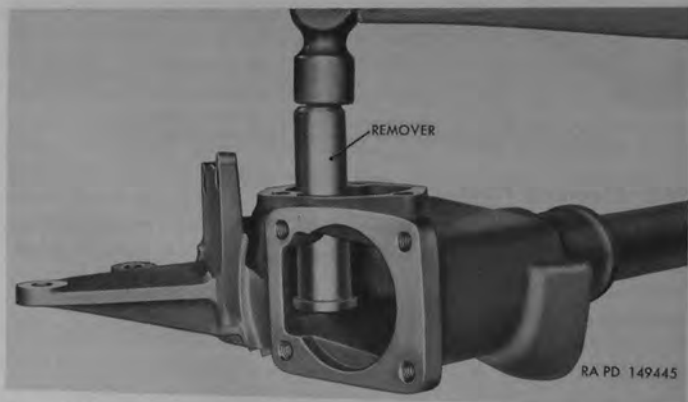

Figure 192. Remove Pitman arm shaft bearings from steering gear housing with remover 41-R-2370.
(1) Inspection.
- (a)* Examine steering gear housing (VV) for cracks, and stripped threads in cover mounting surfaces. If column jacket (F) is damaged, replace both column jacket and steering gear housing (VV).
- (b)* Check clearance (par. 353) between Pitman arm shaft (JJ) and Pitman shaft bushing type bearing (Q) (in steering gear housing). If bushing is worn or scored, replace as described in (2) below.
- (c)* Check condition of outer roller bearing race (R) which is pressed into steering gear housing. If race is cracked, scored, or worn excessively, replace race. When installing race, seat race firmly against end of column jacket in steering gear housing.
- (d)* Check condition of housing filler plug (J) and housing drain plug (HH). Replace if plugs are damaged. Use new gaskets (K) at assembly.
- (e)* Check condition of bearing assembly (D), shaft bearing spring (B), and shaft bearing spring seat (C). Replace if parts are damaged.
(2) Replacement of Pitman shaft bushing type bearing in steering gear housing.
- (a)* Drive bearing from housing with remover 41-R-2370 as shown in figure 192.